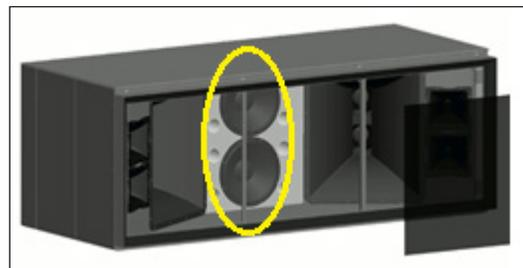

Figure 28: A-1903 Removal
- d. If bad, remove driver. Refer to **Figure 28**.